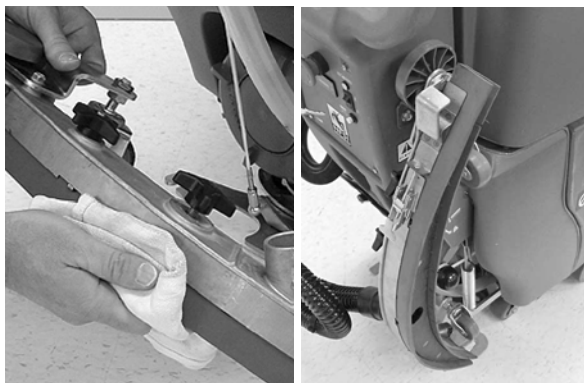

FIG. 47
7. Wipe the squeegee blades clean. When machine is not in use, raise the squeegee assembly off the floor or hang it on the storage bracket (Figure 47).